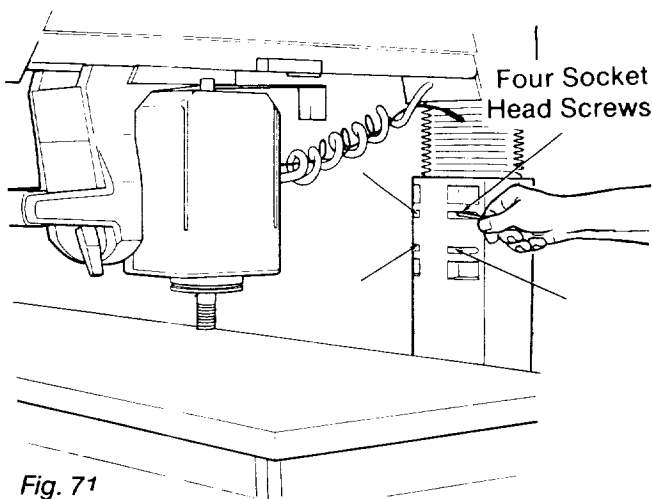

Fig. 71
11. Loosen the four screws in the front of the *column support* slightly, if you have not already done so in the Adjusting Elevation section. (Figure 71)